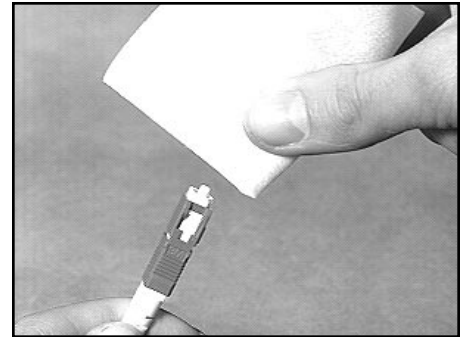

Fig. I2
- A. Clean the ceramic ferrule of the connector with an isopropyl alcohol dampened lint-free cloth (Fig. I2) and immediately blow with compressed air.